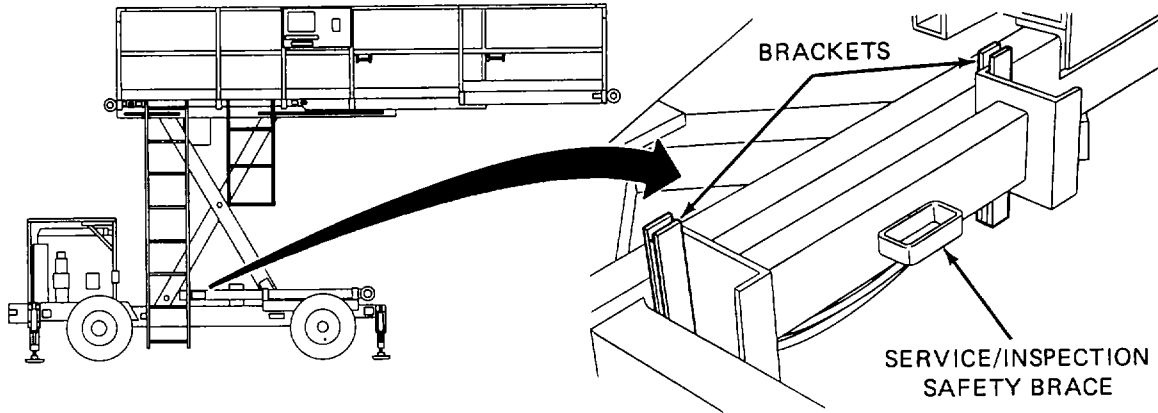

Figure 2-21. Service/Inspection Safety Brace (Stored).
- (1) The safety brace, when not in use, is stored in brackets on the right hand side of the frame. See Figure 2-21.